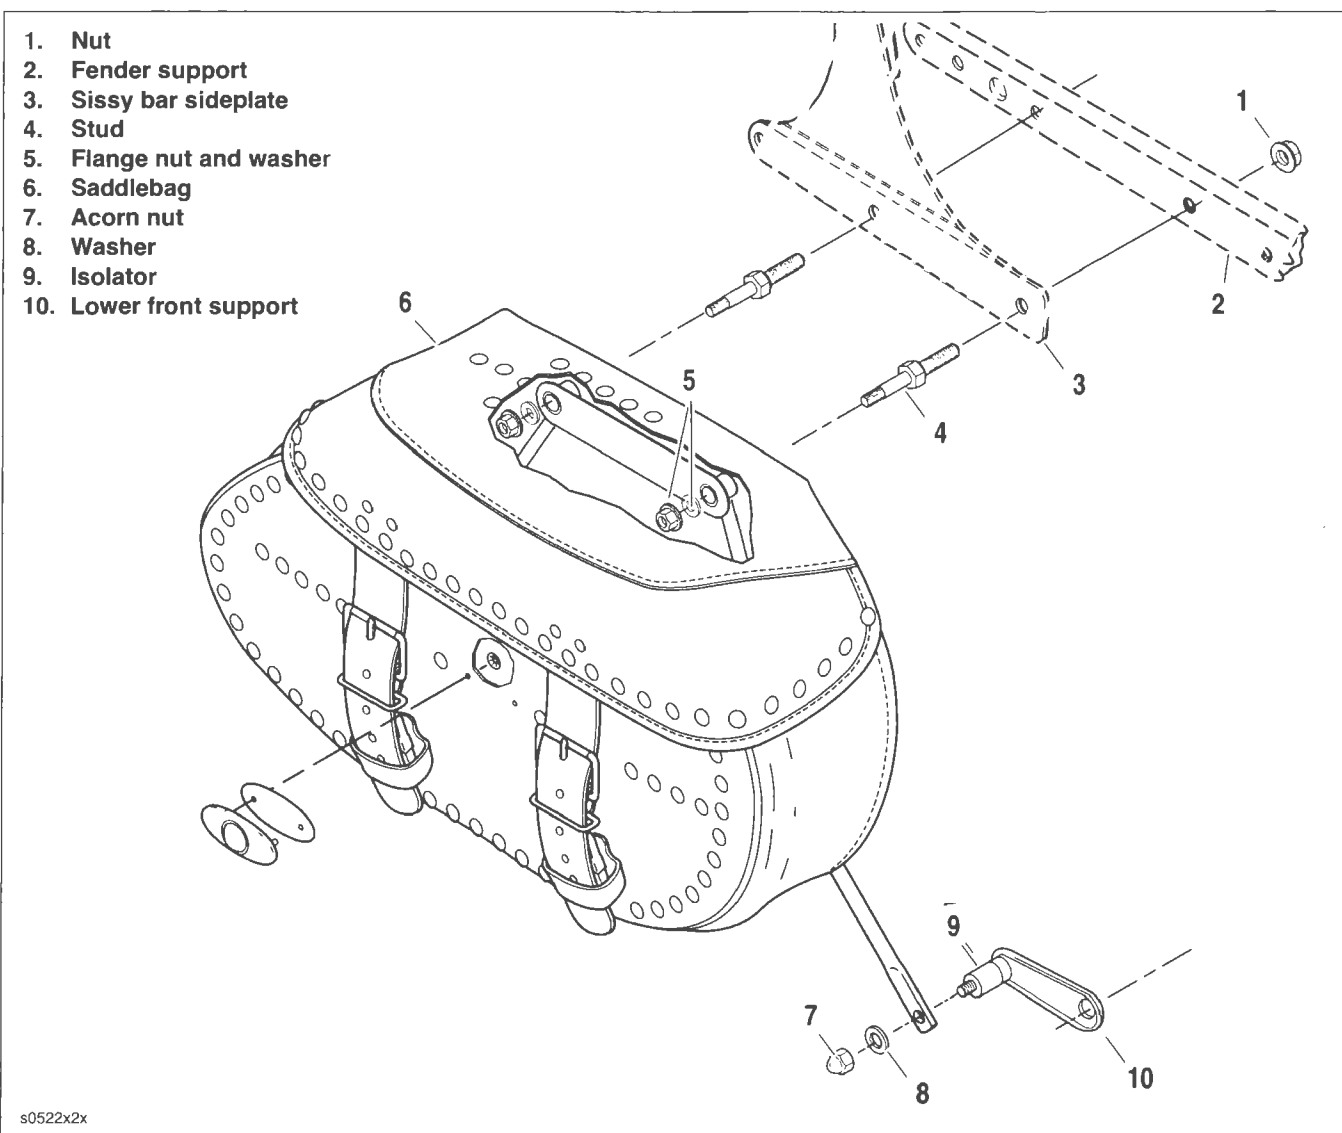

Figure 2-163. Saddlebags: FLSTC
1. See Figure 2-163. Remove acorn nut (7) and washer (8) from lower support.
2. Remove flange nuts and washers (5) from inside saddlebag.
3. Lift saddlebag away from motorcycle. Remove nuts (1) and studs (4) if necessary.
- On FLSTC models, there are no washers between studs (4) and sissybar sideplate (3).
- If replacing isolator (9), long (silver) threads face saddlebag and short (yellow) threads face support.
1. See Figure 2-163. If removed, install studs (4) and tighten nuts (1) behind fender support (2) to 21-27 ft-lbs (28.5-36.6 Nm).
2. Install flange nuts and washers (5) inside saddlebags. Tighten to 120-144 in-lbs (13.6-16.3 Nm).
3. Install lower bracket acorn nut (7) and washer (8). Tighten to 120-144 in-lbs (13.6-16.3 Nm).